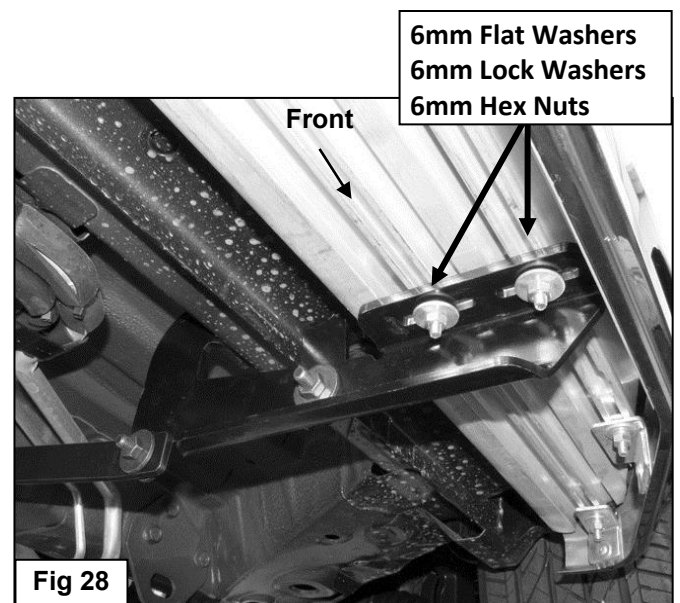

Fig 28
18. Carefully unwrap the Running Boards and select the passenger side Running Board. Insert (6) 6mm T-Bolts into the slots in the ends of the channels, (3 T-Bolts per slot), on the bottom of the Running Board, (**Figure 27**). Hold the Running Board up in the approximate position and slide the T-Bolts down the slots to line up with the Brackets. Tilt the Running Board up at a slight angle to clear the slots in the Brackets. Secure the Running Board to the Brackets with (6) 6mm Flat Washers, (6) 6mm Lock Washers and (6) 6mm Hex Nuts, (**Figure 28**). **NOTE:** The Running Board is designed to fit close to the vehicle. It may be necessary to loosen the Mounting Brackets and tilt the Brackets downward to insert the Running Board. Do not fully tighten hardware at this time.